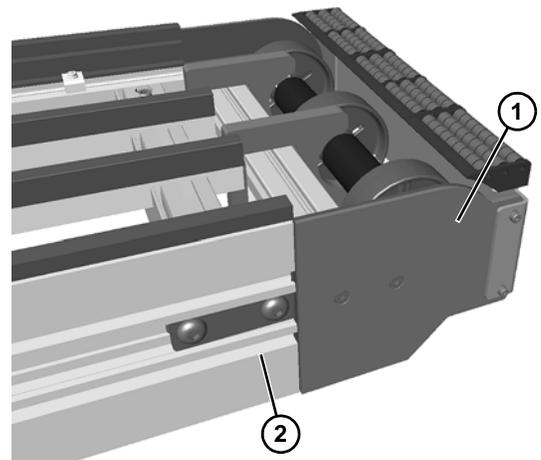

**Figure 99**
15. Install components reverse of removal, making sure idler pucks (**Figure 99, item 1**) and gap filler plates (**Figure 99, item 2**) are evenly spaced on assembly.